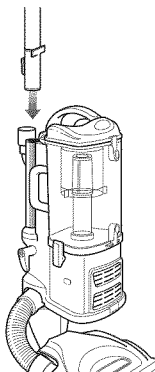

Fig. 10
- 3 Attach the end of the extension wand to the tube on the back of the *Lift-Away*® canister until it clicks into place. (Fig. 10)